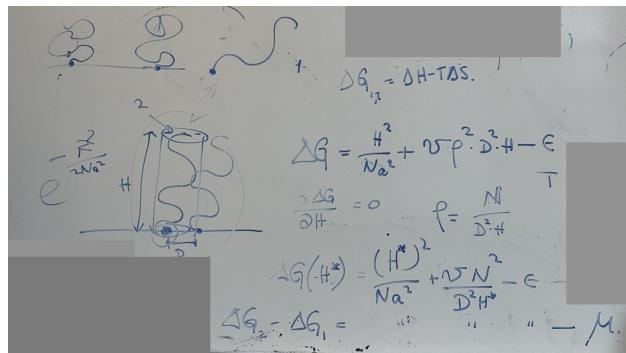

Figure 2.25: PSet 2, Q5 setup.
- Moreover, as we go in from the outside (homogeneous, disordered mixed melt), we progressively go through spheres (S), cylinders (C), gyroids (G), and lamellae (L).
- See Figure 2.25 for a visualization.